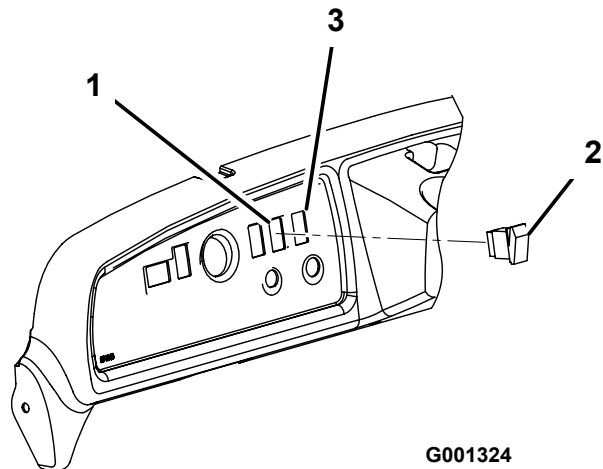

Figure 7
- Remove the plug from the hole in the right side of the dash (Figure 7).
- Plug the switch into the harness connector in the dash. Insert the switch into the hole in the dash (Figure 7).